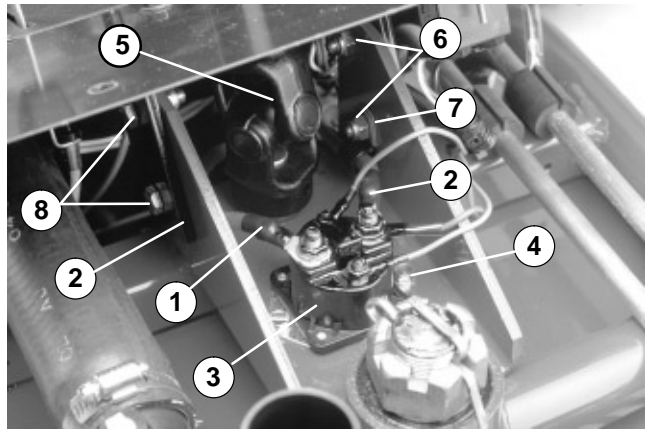

Figure 15
4. Disconnect starter wire and battery cable from the starter solenoid. Remove self tapping screws from the solenoid and frame. Position solenoid away from the steering knuckle (Fig. 15).
9. Remove four lock nuts and cap screws securing both R-clamps and steering post to the frame (Fig. 15).
1. Position steering post through the dash panel and to the frame. Secure post and both R-clamps to the frame with four cap screws and lock nuts (Fig. 15).
5. Secure solenoid to the frame with self tapping screws. Connect starter wire and battery cable to the starter solenoid (Fig. 15).